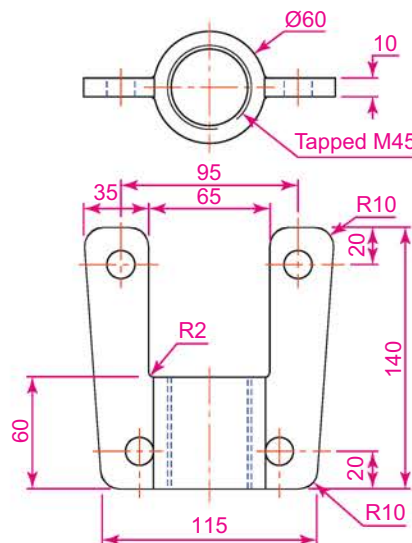

Fig. 16.21 First example – Rendering – two-view projection
1. Construct a 3D model of the wing nut shown in the two-view projection Fig. 16.21.